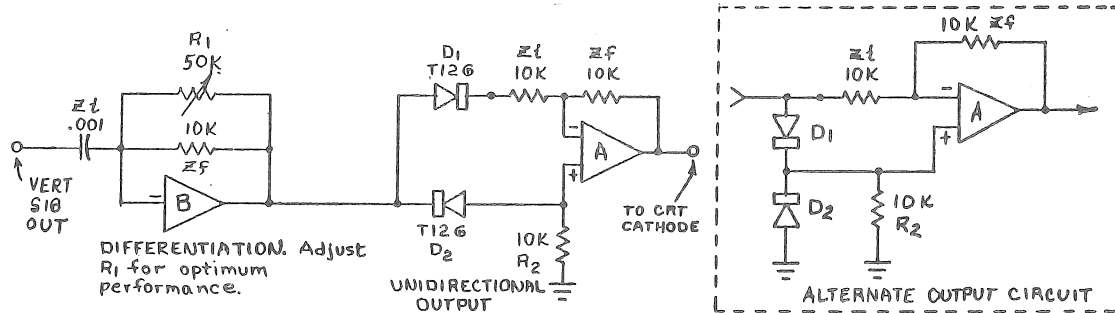

Fig. 4. O Unit circuit for "constant intensity" feature. All Components internal to O Unit except  $R_1$ ,  $R_2$ ,  $D_1$ , and  $D_2$ .
Figure 4 shows the O Unit settings and connections to provide (1) differentiation of the vertical signal and (2) "absolute value" operation (negative-going signal regardless of input signal polarity).